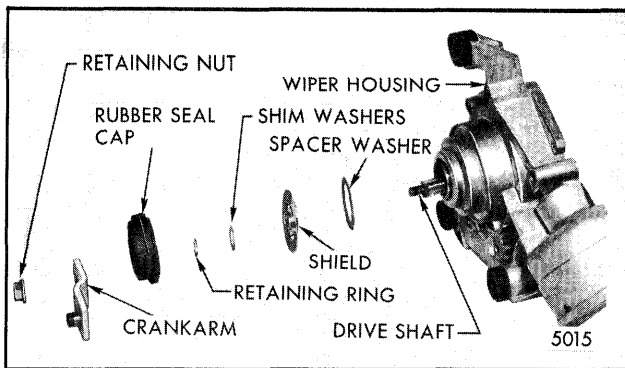

Fig. 2-42-Crank Arm Components
1. Clamp crank arm in vise and remove crank arm retaining nut, crank arm, rubber seal cap, retaining ring, shim washers, shield and spacer washer in the order indicated (Fig. 2-42).